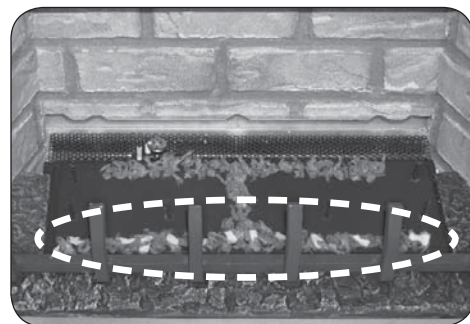

Fig. 33-2 D1-25: Place bryte coals
2. Separate the bryte coals into small pieces and evenly place them along the very front of the burner / glowing embers as shown in Fig. 33-2.